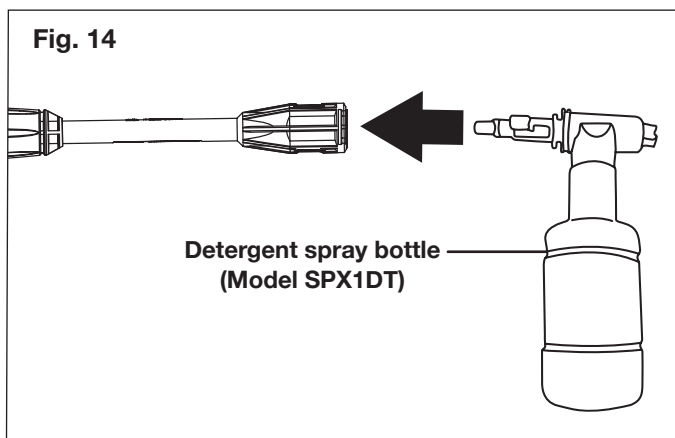

Fig. 14
2. Fill the bottle with a suitable, non-corrosive detergent and attach it the spray gun (Fig. 14).